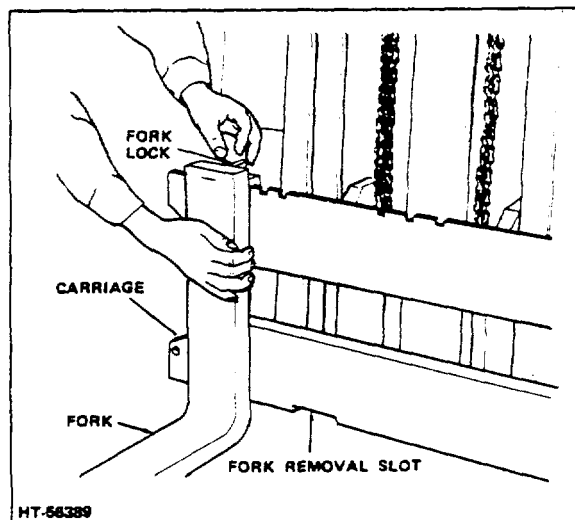

Figure 10. Fork Adjustment and Removal
position in one of the notches along the top bar of the carriage. To change the fork location, pull up on the lock and move fork to the left or right. Allow fork lock to seat in the notch nearest to location chosen. The forks can be removed from the carriage by releasing the locks and aligning each fork with the wide removal slot (see Figure 10) at the bottom of the fork carriage.
- b. Release the fork lock pin and slide fork to a position over the cut-out in the lower carriage bar (Fig 10).